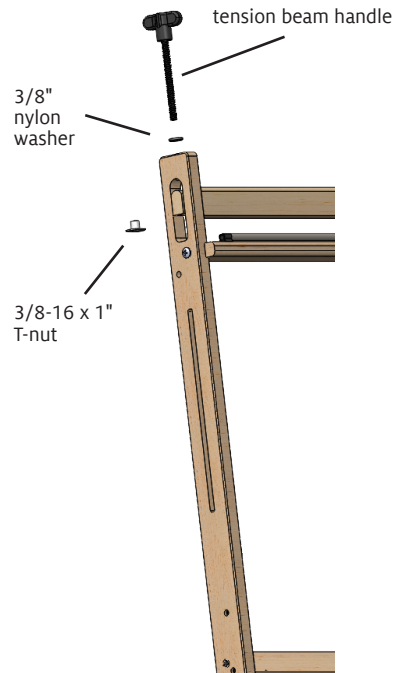

FIGURE 6: ADD HANDLES TO THE TENSION BEAM
6. Add handles to the tension beam: Place a large 3/8-16 x 1" T-nut underneath the tension beam with its wide end at the bottom (Figure 6). Fit the T-nut into the hole in the end of the tension beam.